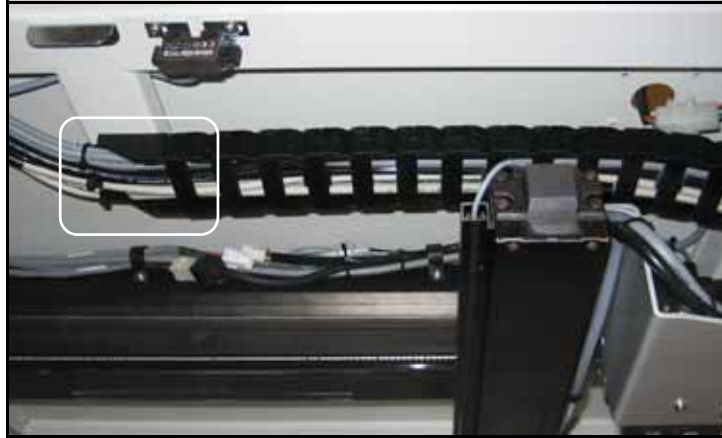

Figure 4-23: Looking up from the back of the system, the upper end of the upper cable carrier is screwed to the frame.
- 2b. Check by hand that the upper end of the **upper carrier** is tight. If not, tighten the two mounting screws. Cable ties may need to be cut to move the cables out of the way. See Figure 4-23.